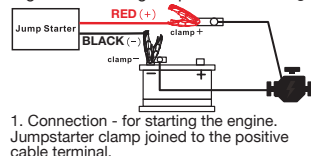

Fig 7
2. Connect the Batteryless Jump Starter to the vehicle as shown in Fig. 7. Disconnect the positive cable terminal from the vehicle's battery. Attach the Positive Battery Clamp **RED** (1) of the Batteryless Jump Starter to the positive battery lead terminal of the car. ENSURE that the battery lead can be reconnected to the battery WITH the Batteryless Jump Starter clamp still attached. (Ensure that the battery terminal hole is not obstructed by the Positive Battery Clamp **RED** (1).
3. Attach the Negative Battery Clamp **BLACK** (2) to the negative battery terminal (or relevant negative jump starter connection point of your vehicle)